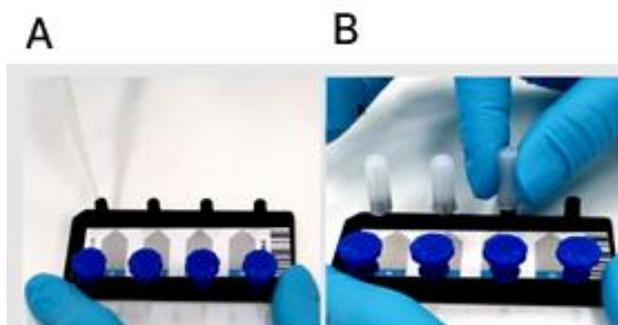

Figure 3 A) add the PCR reaction mix and B) tall white cap on unused chamber inlet
- a. Tighten the tall white vented Sapphire Chip PCR cap enough to avoid disconnection from the inlets (Figure 3).